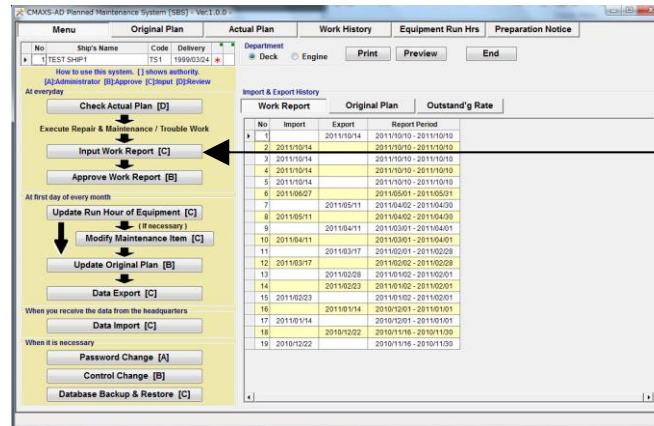

Fig.6-1 Menu Screen
(1) On the "Menu screen"(Fig.6-1), select [Input Work Report].